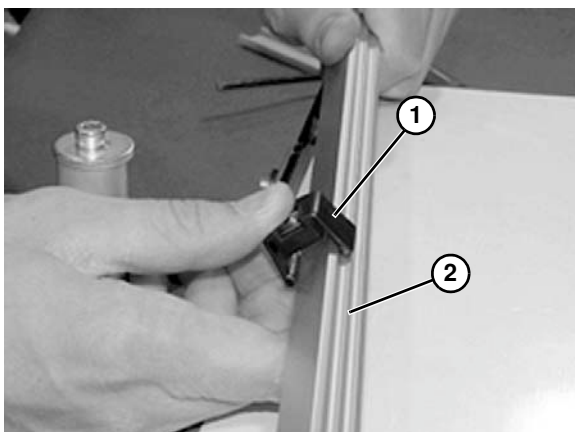

Figure 23
4. Snap clip (**Figure 23, item 1**) onto guide rail (**Figure 23, item 2**).